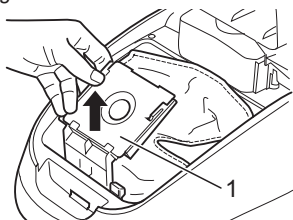

Fig. 18
3. Pull the dust bag holder together with the dust filter bag (Fig. 18/1) up and out (Fig. 18).